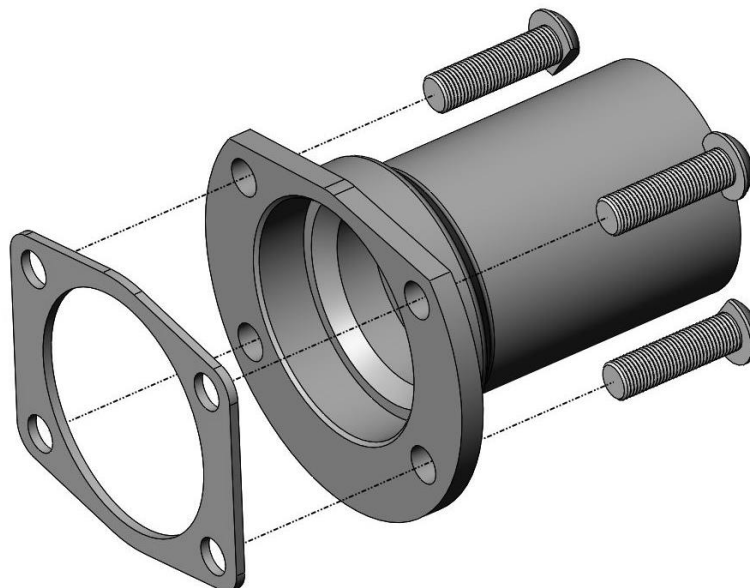

Figure 2 – Spacer Flange in Place
5. From the backside of the axle flange, insert the provided machined 1/2"-20 x 1.500" Button Head Bolts into the axle housing. Once installed, position the spacer flange over the four bolts against the axle flange. **NOTE:** If long enough the factory t-bolts may be reused in the installation. Figure 2 can be used below for reference on installing the spacer flange.